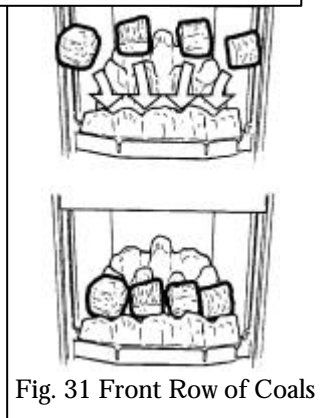

Fig. 31 Front Row of Coals
11.3.1 Place the 4 large coals in the valleys of the front coal (See figure 31).